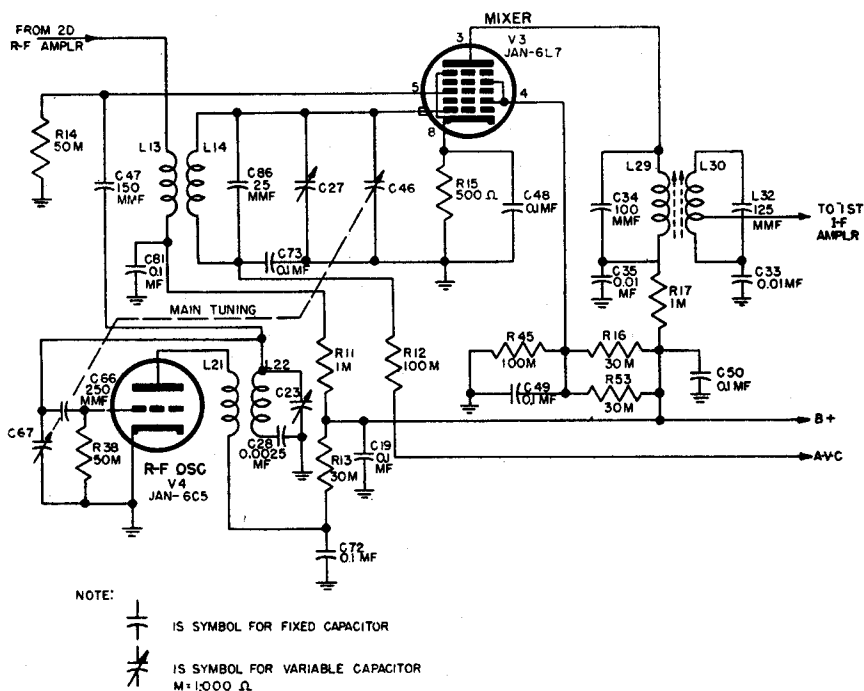

Figure 24. Mixer and r-f oscillator stages, m-f models.
b. RADIO RECEIVERS BC-314-(*) AND BC-344-(*). (1) A simplified schematic diagram of the mixer stage and r-f oscillator stage in the m-f receiver models is shown in figure 24. The mixer stage is similar to the mixer stage in the h-f receiver models with the exception of the tuned grid input circuit. This circuit consists of inductor L14 and capacitors C27, C46, C73, and C86 whose functions are identical to the corresponding elements in the r-f amplifier tuned circuits in the h-f receivers.